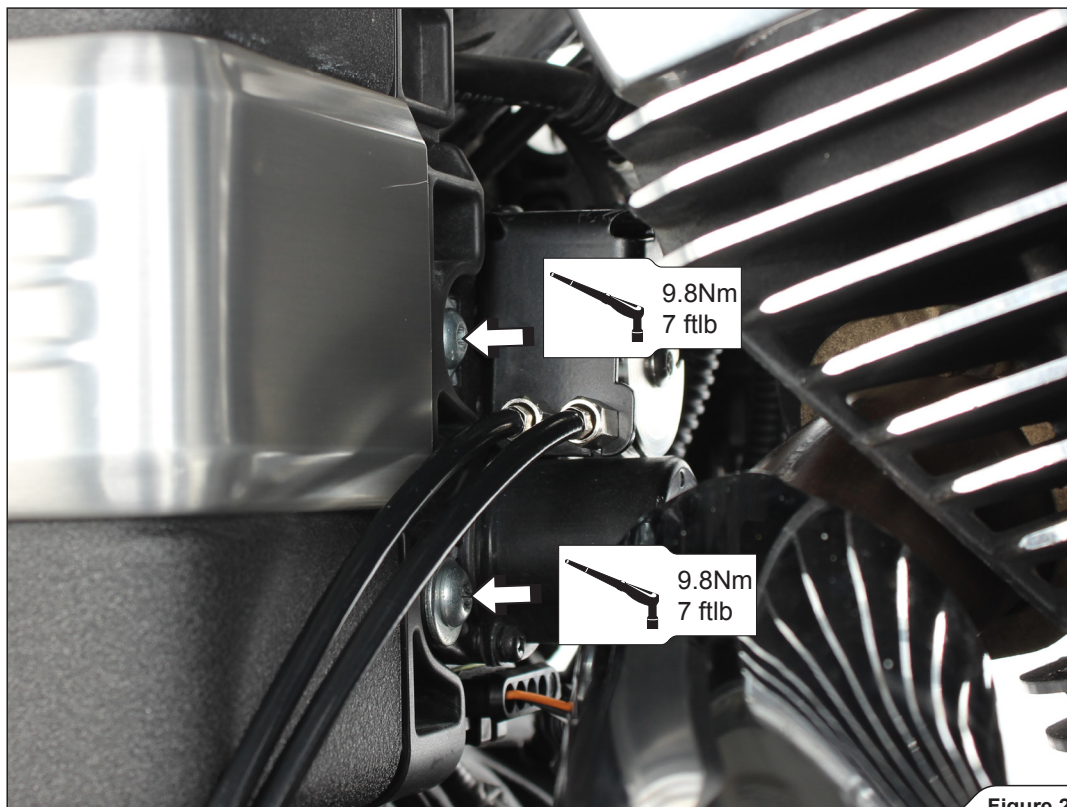

Figure 25
4. Tighten exhaust valve motor onto the motorcycle to the specified torque (Figure 25).